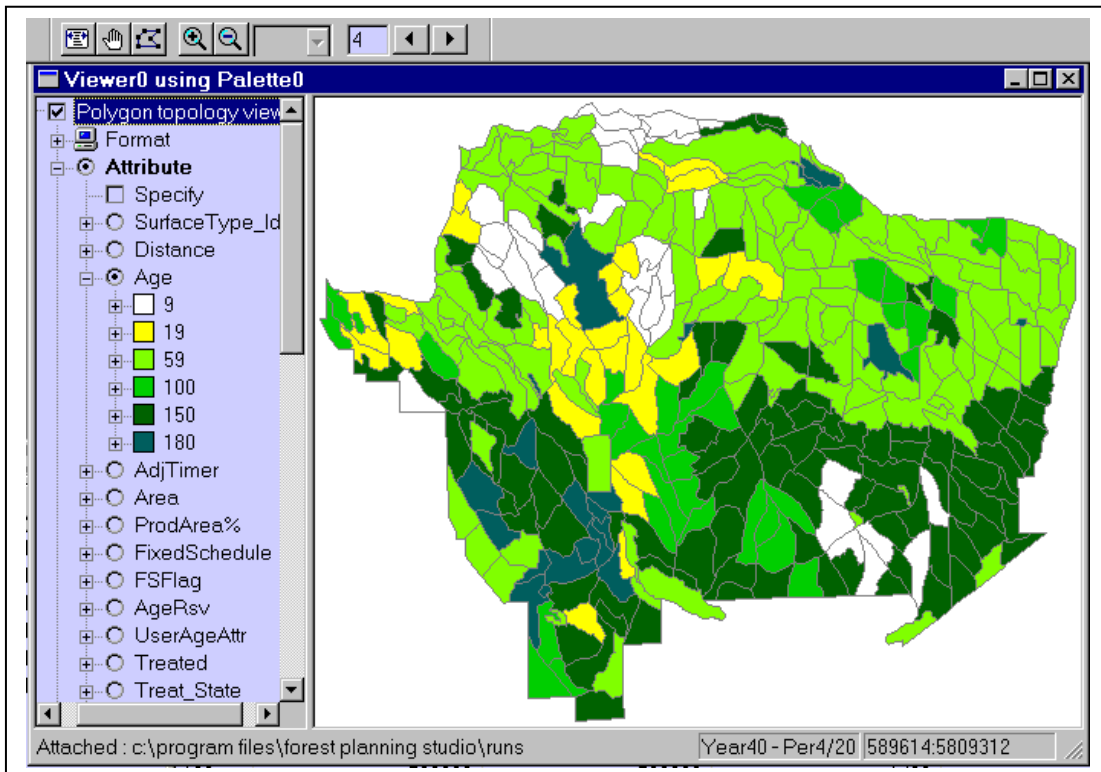

Figure 16: Map viewer showing the ages of polygons at age 40.
- 2.4.8 In the *Viewer* legend, click on the box adjacent to the *Polygon topology* view to expand the legend. Expand both the *Attributes* and *Age* categories and ensure that the radio buttons next to each is checked. The *Map Viewer* should now be displaying the age-classes of each polygon (Figure 16). The legend showing which color corresponds to each age-class should also be displayed in the *Viewer Control* legend.